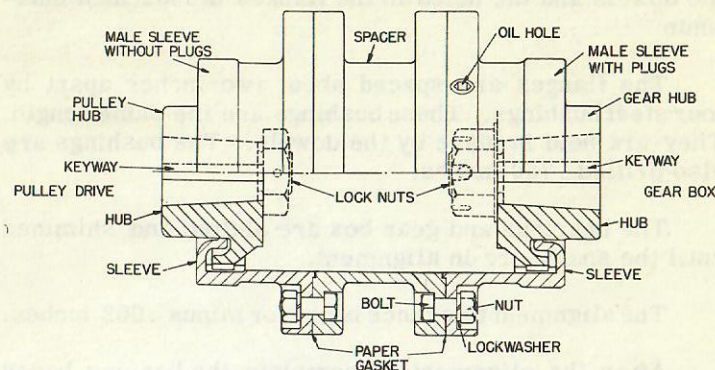

FIG. 3-7
1. Remove nuts and bolts from coupling flange, Fig. 3-7 and jack coupling sleeve away from spacer.